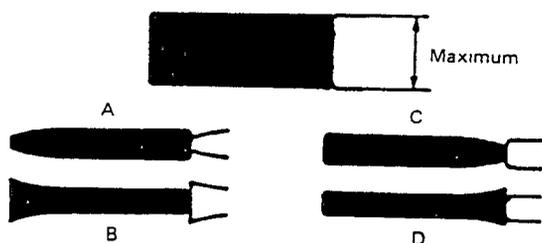
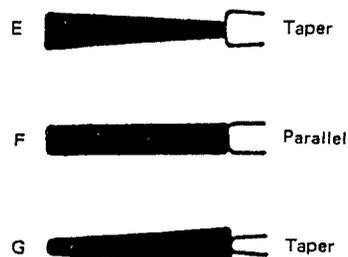

Fig. 34 Minimum FM output (incorrect examples)
Fig. 35 Minimum FM output (correct examples)
2. If the waveform becomes as shown by A or B of Fig. 34, carefully adjust the supply guide roller height so that the waveform becomes as shown by E, F or G of Fig. 35. At this time, if the waveform fluctuates, adjust to the point of minimum fluctuation.
3. If the FM waveform appears as shown by C or D in Fig. 34, carefully adjust the take-up guide roller height to obtain a waveform such as shown by E, F or G of Fig. 35. At this time, if the waveform fluctuates, adjust to the point minimum fluctuation.
Perform fine adjustment of supply and take-up guide rollers so that waveform variation becomes as shown by E, F or G of Fig. 35.